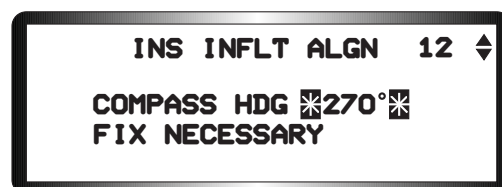

Figure 2-5 Inflight Alignment DED page
- Verify INFLT ALIGN DED page displayed (Figure 2-5).